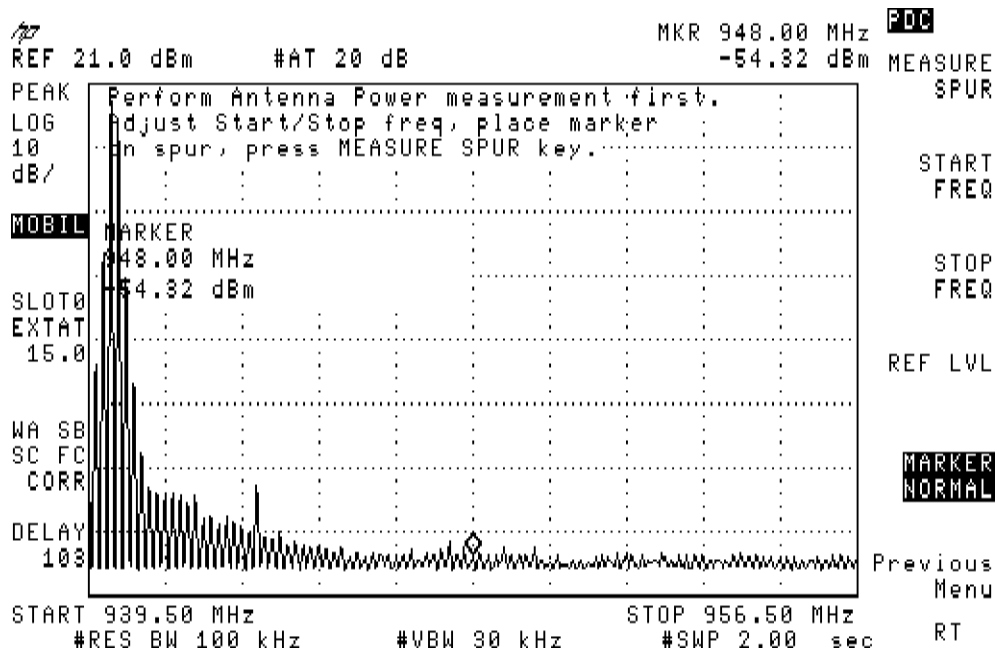

Figure 2-32. Spurious Emission Procedure
3. Press **SPURIOUS EMISSION**. The personality will set the start and stop frequencies for the band currently selected and set the input attenuator to a value determined by the antenna power. See Figure 2-32.